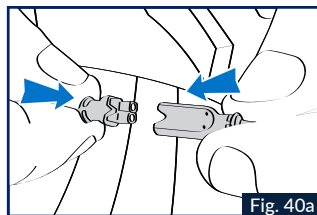
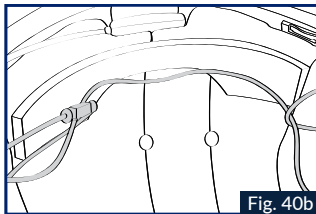

Fig. 40a
Fig. 40b
11. Make the connections to the speakers (black 2-branch connector), and the keyboard as shown in Fig. 40a, then pass the right speaker cable as shown in Fig. 40b.